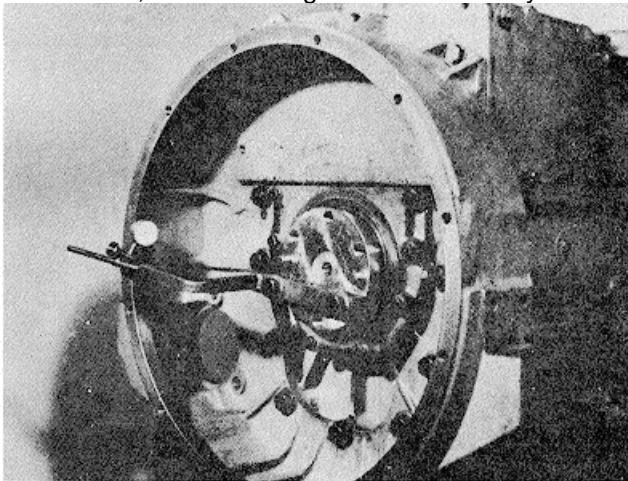

Fig. 14-14, (N 11447). Indicating flywheel housing bore
1. Draw chalk marks at 12, 6, 9 and 3 o'clock. Attach ST-112 and a dial gauge to crankshaft flange. Fig. 14-14.